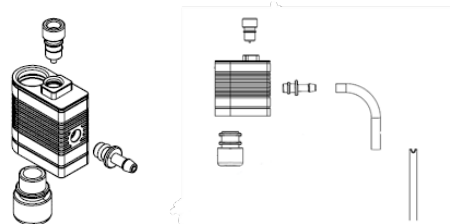

Fig. 3
Assemble the milk system parts (6) (Fig.3).